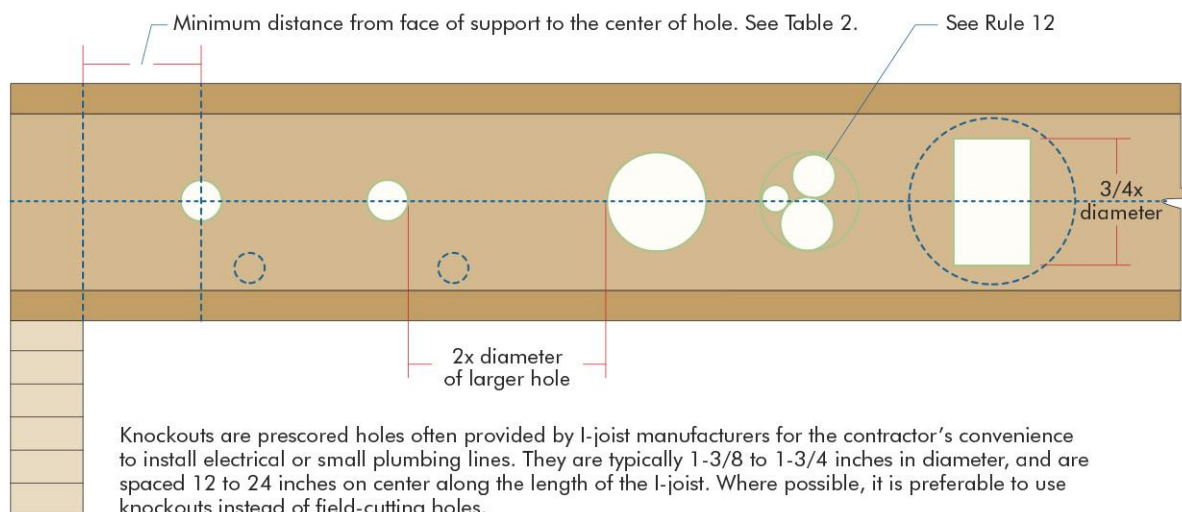

FIGURE 1—TYPICAL HOLES
10. All holes must be cut in a workman-like manner in accordance with the restrictions listed above and as illustrated in Figure 1.